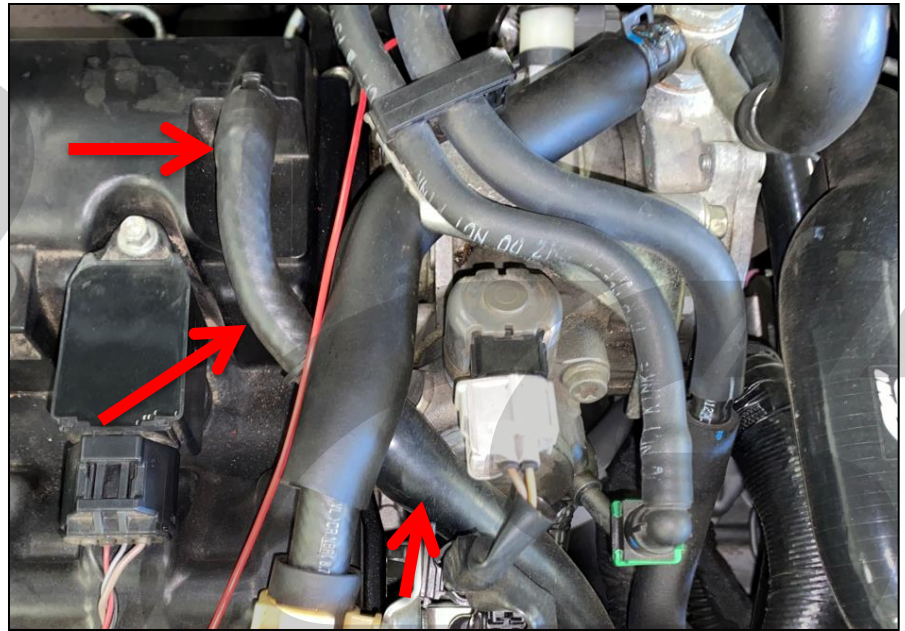

Figure 3d
- i) **At the top of the engine, install the supplied smaller hose & reducer fitting onto the valve cover port.** Shown in **Figure 3d**.